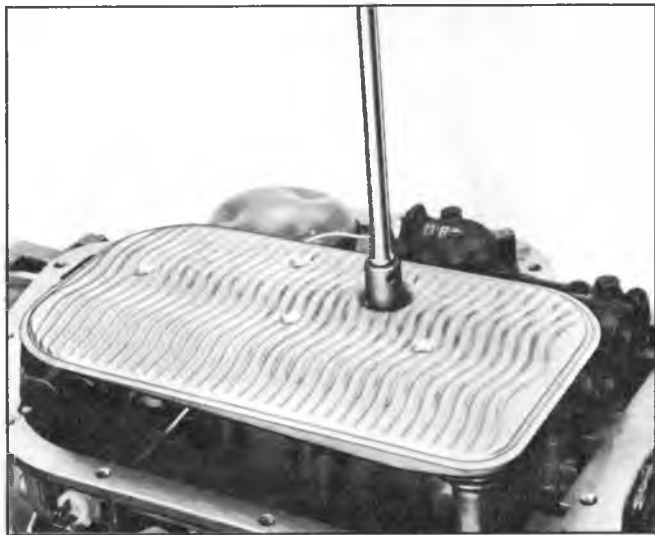

Fig. 7T--Removing Filter Retainer Bolt
6. Remove the filter retainer bolt (fig. 7T).